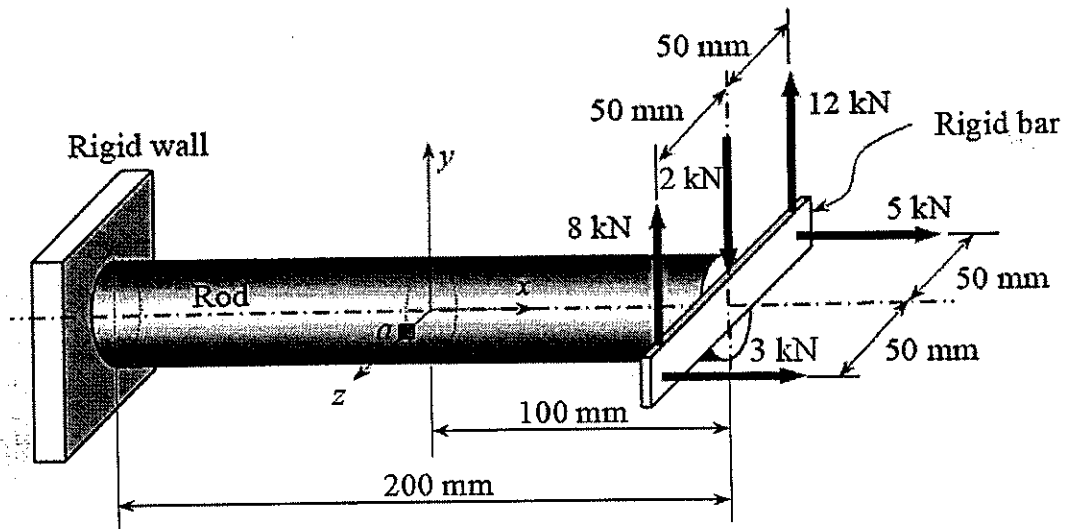

Figure 4
4. Figure 4 shows a steel rod with one end fully fixed into a rigid wall. A rigid bar is welded centrally onto the other end of the rod. Five concentrated forces are applied to the rigid bar as shown. The diameter and Young's modulus of the rod are 50 mm and 200 GPa, respectively. Ignore the weight of the rod and bar.